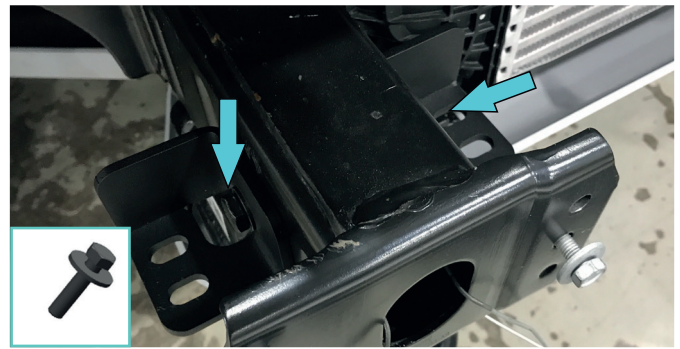

Fig.21
21. Install brackets for reinforcement (item 26, 27) on the right side of the frame using bolts M8x30, washers 8 (item D, J) (fig.21).